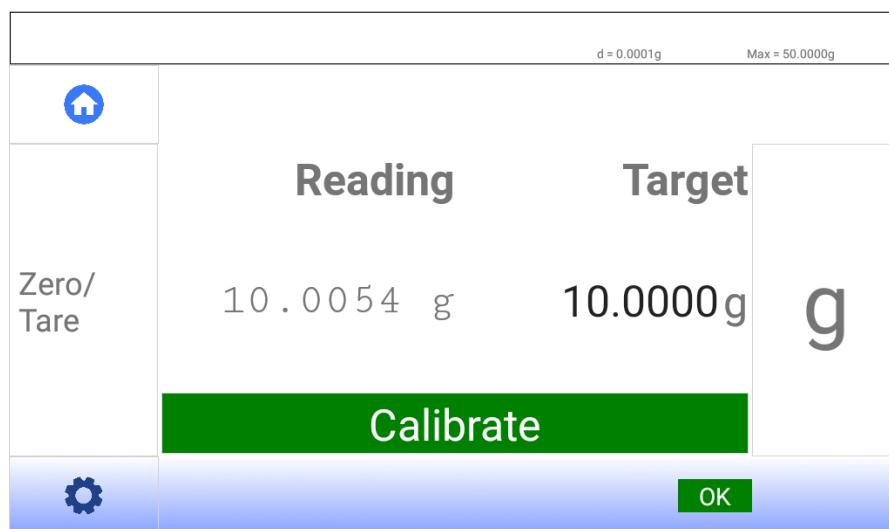
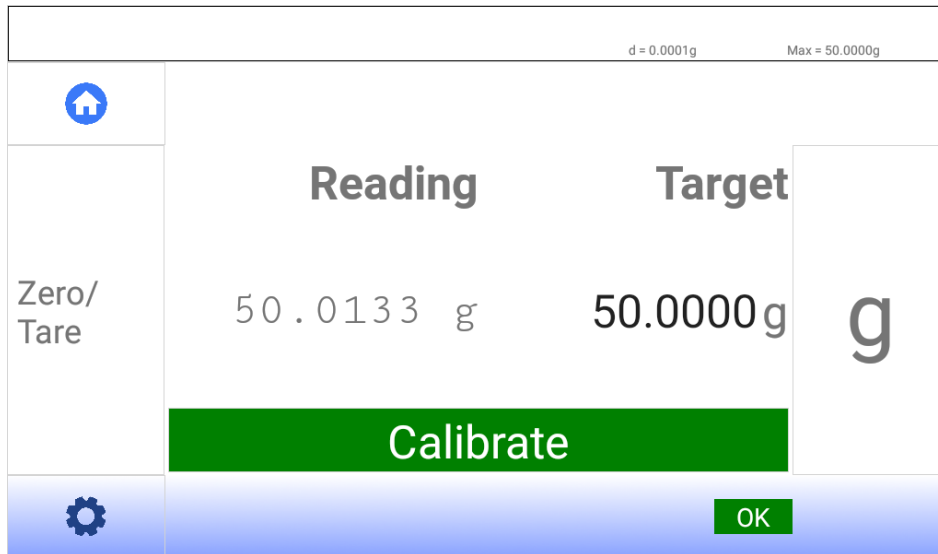

Figure 19. Calibration Complete Using 10 Gram Weight
Figure 20. Calibration Complete Using 50 Gram Weight
6. Wait for the “Waiting on stable weight” to turn to a “Calibrate” banner. When the “Calibrate” banner turns green, that indicates calibration is completed as shown in Figure 19 for a 10 gram calibration weight or Figure 20 for a 50 gram calibration weight.